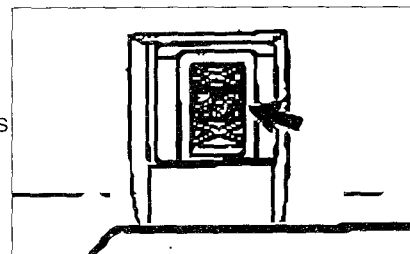

Figure 16
- With the roof rail trim panels removed, glue felt or foam pieces, approximately 12mm X 10mm and 5mm thick in the indentations of the securing part (arrow, Figure 16). The glued in part must be approximately 1mm taller than the securing part indentation.